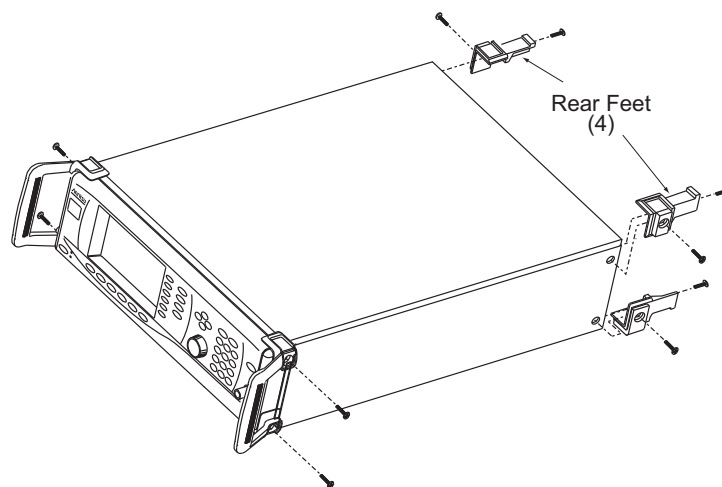

Figure 6-1. Front Handle and Rear Feet Removal
1. Use a Phillips screwdriver to remove the screws and the front handle assemblies from the instrument (see Figure 6-1). For models not having front handles, remove the screws and the front top and bottom feet from the instrument. Retain the screws.